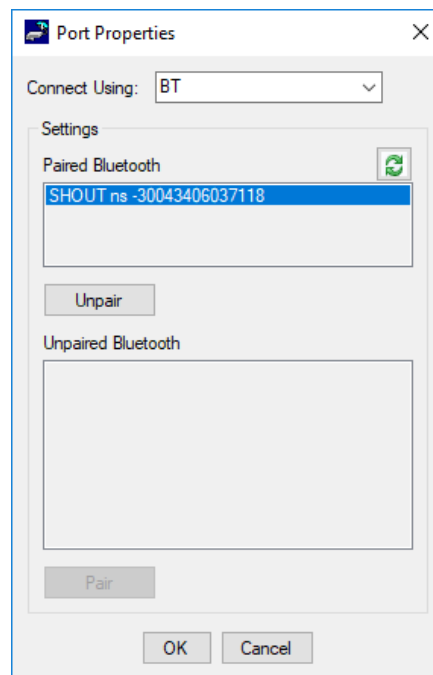

Figure 7: Bluetooth Port Properties Paired
7. Click your SHOUT ns device from the *Paired Bluetooth* list (see **Figure 7**) and click **OK** to connect. If the connection is a successful, the window closes and SatTerm is properly connected to the SHOUT ns.